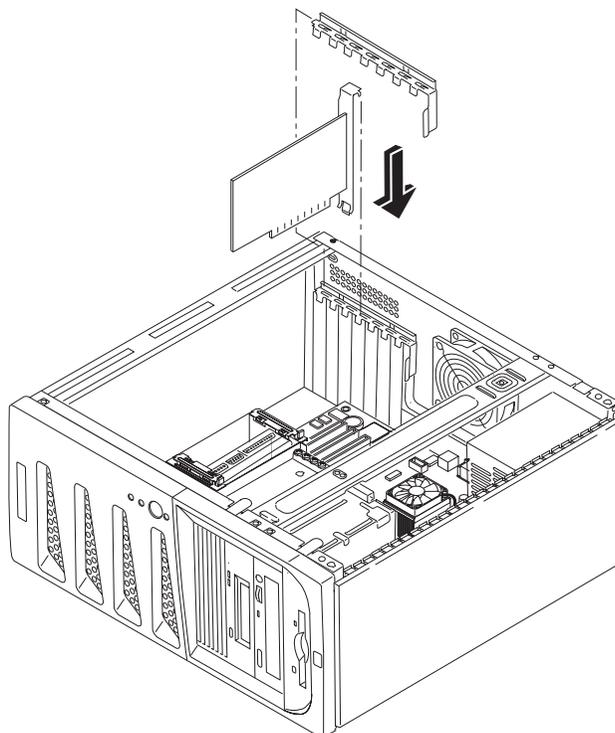

Figure 3-22. Inserting an Accessory Board
9. Align the card carefully, slide it into position, and press it firmly into the slot. See Figure 3-22.